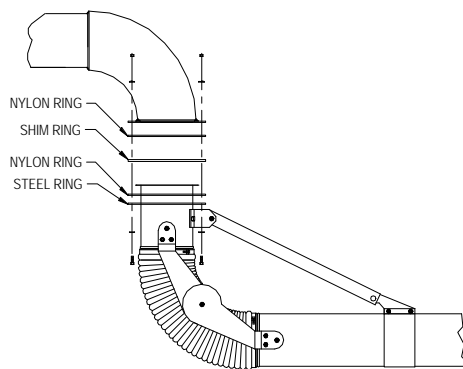

FIGURE 3
5. After the Boom Arm is satisfactorily mounted, attach the SCA 600/800 series arm to the Boom Arm as shown (**Figure 3**).